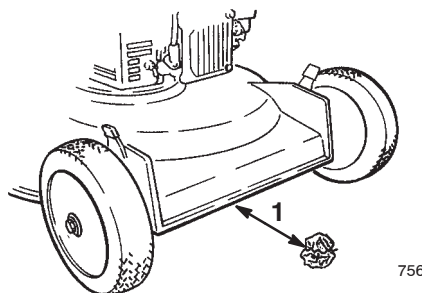

Figure 14
5. Take a half sheet of newspaper and crumple it into a ball small enough to go under the deck (about 3 in. or 76 mm in diameter) as shown in Figure 14.
6. Place the ball of newspaper 5 in. (12.7 cm) in front of the lawn mower (Fig. 14).
- A. Place the ball of newspaper 5 inches (12.7 cm) in front of the lawn mower (Fig. 14).